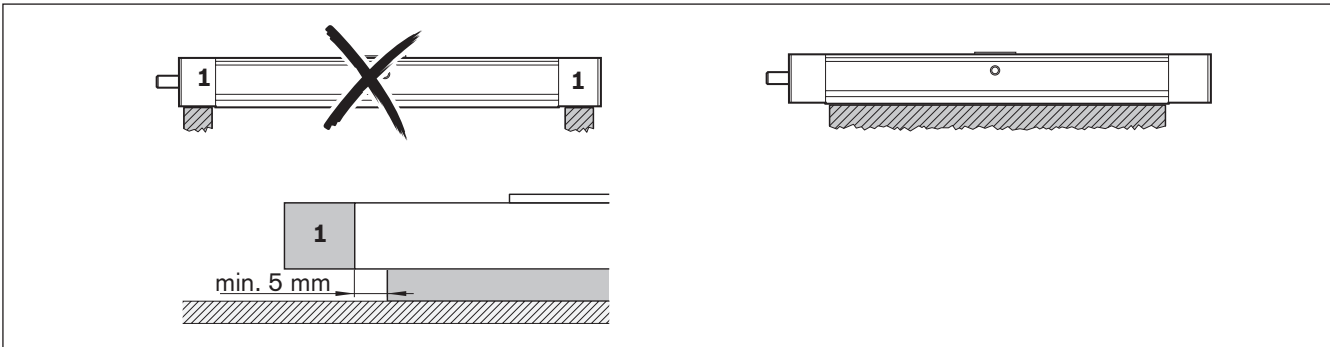

Fig. 4: Fastening on the mounting base
- ▶ Do not fasten or support the product at the end blocks/cross ties (1). The frame is the load-bearing part. If possible, support it over the entire length \Rightarrow \boxtimes Fig.4.
- ▶ When fasteniing to the frame, keep a minimum distance of 5 mm from the end blocks (1) \Rightarrow \boxtimes Fig.4.